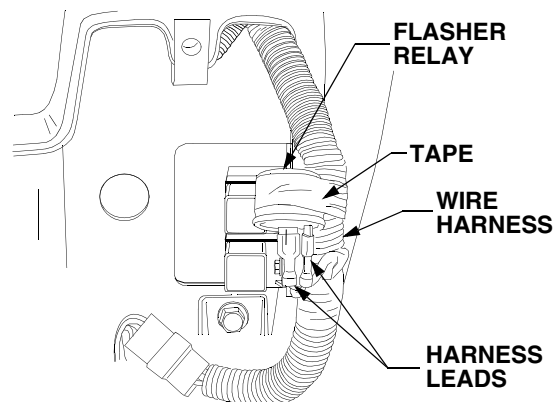

Figure 41
- Pull the wire harness from the right side of the dash opening and remove the electrical tape from the flasher relay. See Figure 41.